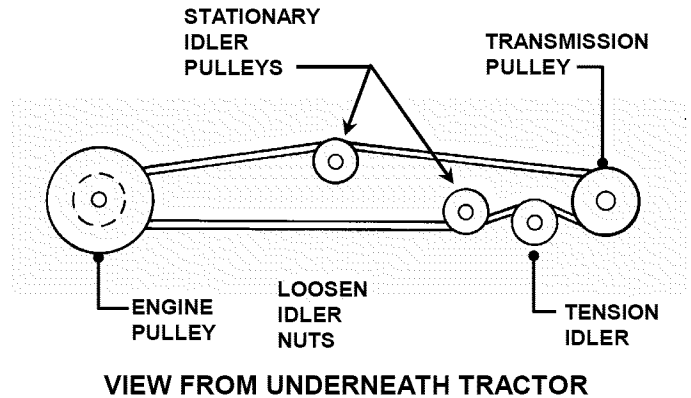

FIGURE 4.31
14. Loosen mounting nuts on traction drive belt tension and stationary idlers just enough to allow belt to clear belt guides. See Figure 4.31.